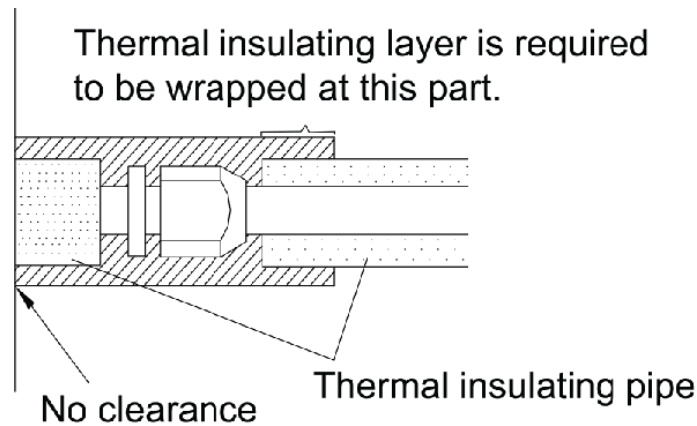

Fig. 35
- 3) Joints at indoor and outdoor units should be wrapped with insulating material and leave no clearance between pipe and wall. See Fig.35.